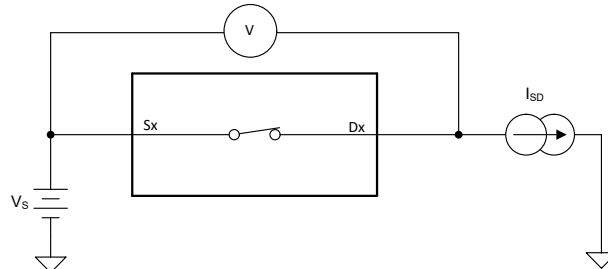

Figure 6-1. On-Resistance Measurement Setup
The on-resistance of a device is the ohmic resistance between the source (Sx) and drain (D) pins of the device. The on-resistance varies with input voltage and supply voltage. The symbol  $R_{ON}$  is used to denote on-resistance. Figure 6-1 shows the measurement setup used to measure  $R_{ON}$ . Voltage (V) and current ( $I_{SD}$ ) are measured using this setup, and  $R_{ON}$  is computed with  $R_{ON} = V / I_{SD}$ .